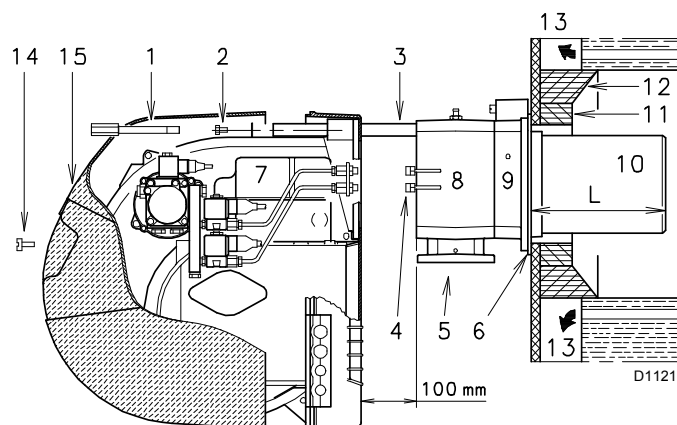

Fig. 11
For boilers with a water-cooled front piece, a refractory lining 11)-12)(Fig. 11) is not necessary, unless expressly requested by the boiler manufacturer.
- Separate the combustion head from the rest of the burner (Fig. 11):
Once this operation (if necessary) has been carried out, fix the flange 9)(Fig. 11 on page 17) to the boiler plate, interposing the insulating gasket 6)(Fig. 11 on page 17) supplied. Use the 4 screws supplied with the unit, after protecting the thread with anti-locking product.
- Refit the burner 4)(Fig. 17) on the slide bars 3) at about 100 mm from the pipe coupling 5), burner in the position shown in Fig. 11 on page 17.
- Reconnect the light oil pipes by screwing the two fittings 4)(Fig. 11 on page 17).